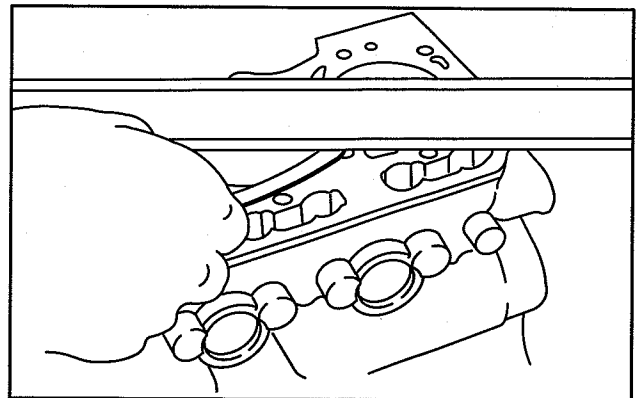

Fig. 1 - Checking Cylinder Block
1. Check cylinder block deck for distortion, Fig. 1.